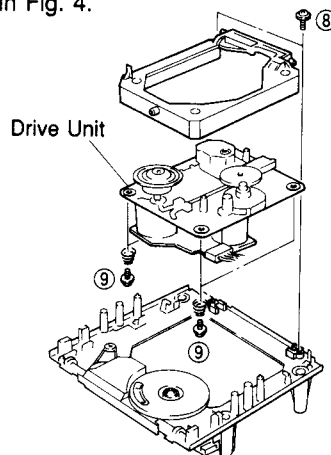

Fig. 4
- Remove 2 screws (⑧) in Fig. 4.
- Remove 4 screws (⑨) and then remove the Drive Unit in Fig. 4.